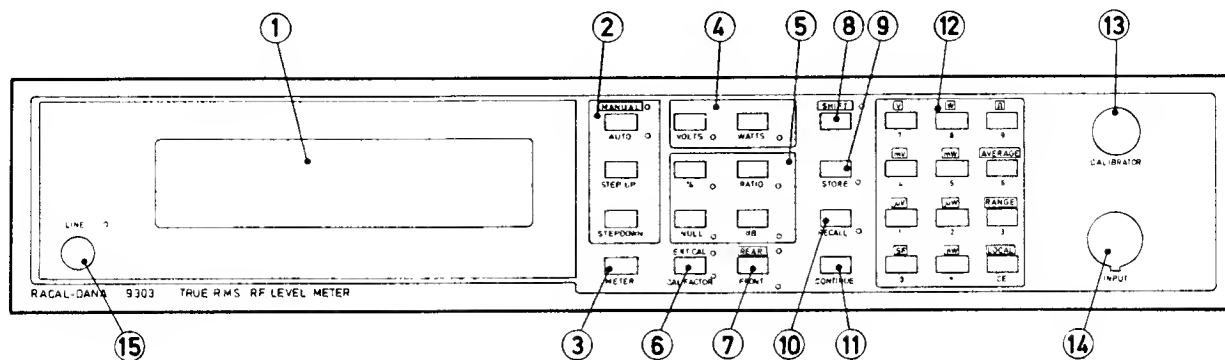
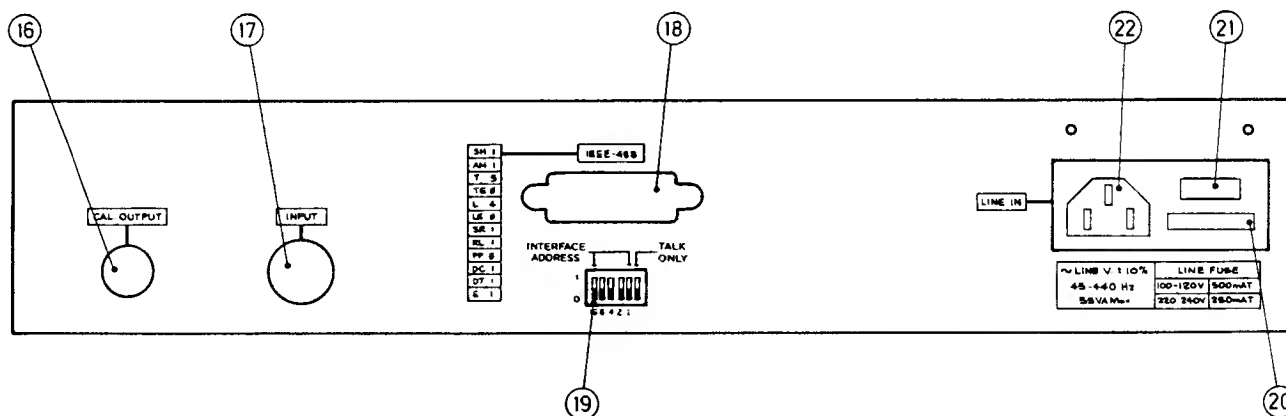

Fig. 4.1 Front Panel Layout
Fig. 4.2 Rear Panel Layout
4.2.1 Each group of controls or connectors described is numbered to correspond with the indicators on Fig. 4.1 (front panel) or Fig. 4.2 (rear panel).